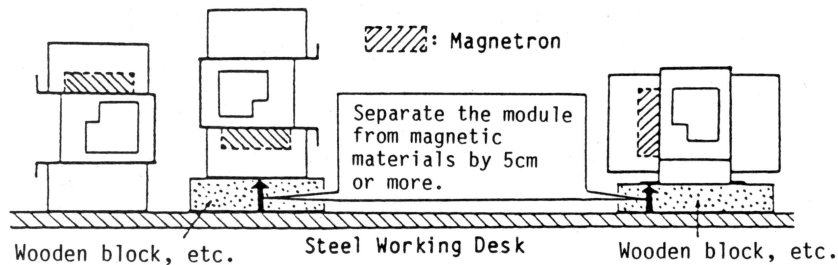

Fig.3-6
- Note; (1) Separate the magnetron from magnetic materials by 5cm or more. See Fig.3-6.
- (2) The heater voltage must always be kept between 6.0 and 6.6VDC. Higher voltage shortens the life of the magnetron.
- (3) When a new magnetron is fitted, allow at least 15 to 20 minutes pre-heating under ST-BY, and depress the TX touchpad about 10 times to prevent arcing.
- (4) The magnetron must not be stored in the vicinity of ferro-magnetic materials and magnetic fields to prevent deterioration due to de-magnetization.